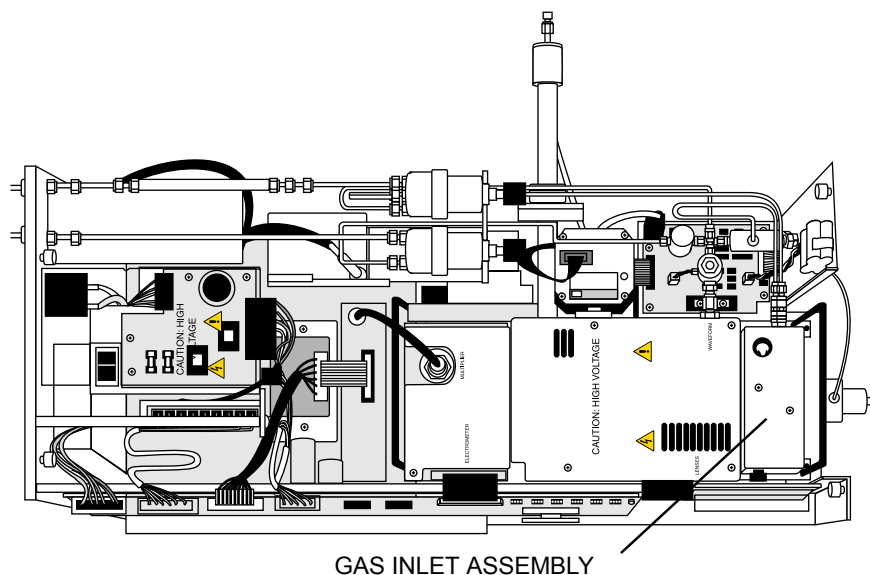

Figure 7-10. GCQ Plus with Top Cover Removed, Showing the Location of Gas Inlet Assembly
5. Remove the gas inlet assembly cover plate. See Figure 7-10 for the location of the gas inlet assembly.